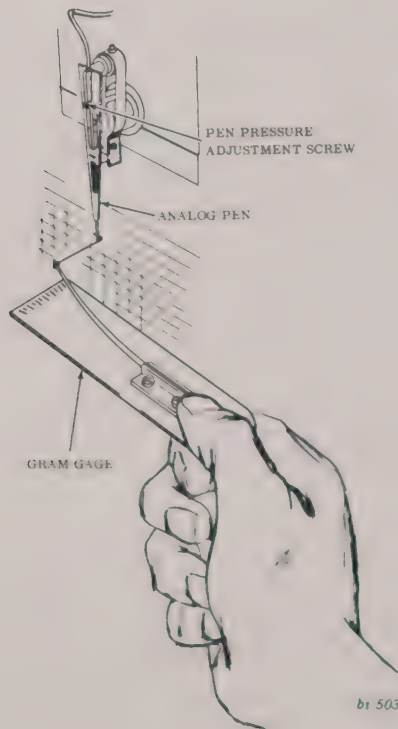

FIGURE 6-7 PEN PRESSURE MEASUREMENT
5. Place gram gage hook under pen shaft as close as possible to tip and form a right angle to pen shaft with gage hook. (Fig. 6-7)